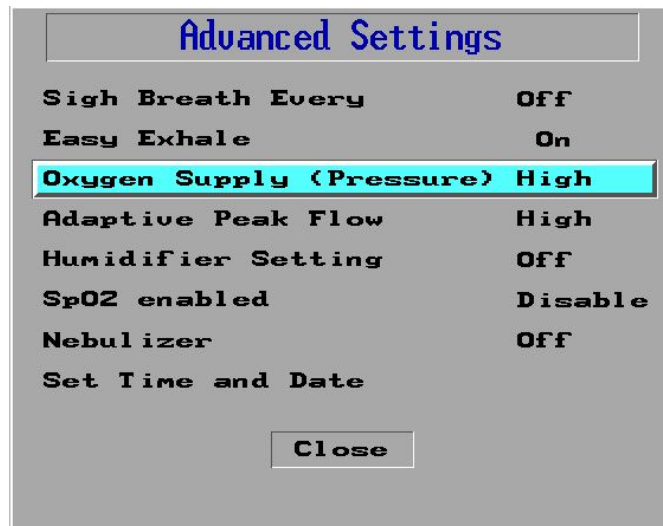

Figure 81: Oxygen Supply Selected in the Advanced Settings Screen
2. In the **Advanced Settings** screen select **Oxygen Supply (Pressure)**. The current option is shown in the right column of the screen (Figure 81)